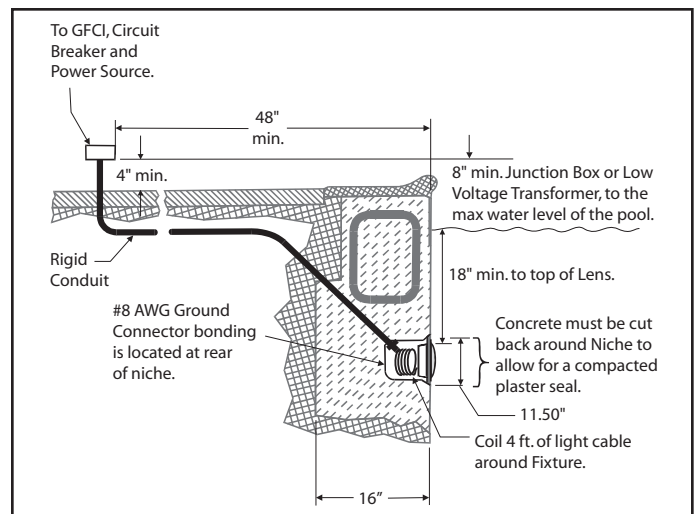

Figure 1. Jandy Digital Color Light Installation
NOTE: The electrician must complete preparatory steps before light fixture is installed. See Figure 1.
- The Junction Box (or, for 12 volt models, the low voltage transformer) must be located at least eight (8) inches above water level, at least four (4) inches above ground level or pool deck level, and at least four (4) feet from the edge of the pool or spa; see Figure 1 for pools and Figure 2 for spas.
- The light fixture and all metal items within five (5) feet of the pool or spa must be properly electrically bonded to a reliable point of grounding.
- The wet niche must be properly installed so that the top edge of the underwater light's lens is at least 18 inches below the surface of the water in the pool or spa; see Figure 1 or 2.
1. Feed cord through conduit to junction box, leaving at least four (4) feet of cord at the light fixture to coil into the base of the light niche, see Figure 1. The four (4) feet of cord allows the light to be serviced after the pool is filled with water.
2. Cut the cord at the junction box, leaving at least six (6) inches of cord to make connections.
3. Strip six (6) inches of the outer cord jacket to expose the three insulated wires. *Be careful not to damage the insulation on the three (3) inner wires.*
4. Install strain relief over cord jacket and connect all three (3) wires to the corresponding circuit wires in the junction box. Install the junction box cover.
2. The junction box (or, for 12 volt models, the low voltage transformer) must be located at least eight (8) inches above water level, at least four (4) inches above ground level or pool deck level, and at least 48 inches from the edge of the pool or spa. See Figure 1.
3. The light fixture and all metal items within five (5) feet of the pool must be properly electrically bonded to a reliable point of grounding.
4. The wet niche must be properly installed so that the top edge of the underwater light's lens is at least 18 inches below the surface of the water in the pool. See Figure 1.
5. The wet niche must be properly electrically bonded and grounded via the No. 8 AWG ground connector located at the rear of the niche. See Figure 1.
5. Leave at least four (4) feet of cord to coil around the light fixture or coiled into the base of the light niche, see Figure 1. This allows the light to be serviced after the pool is filled with water.
6. Cut the cord at the Junction Box, leaving at least six (6) inches of cord to make connections.
7. Strip six (6) inches of the outer cord jacket from the cord to expose the three insulated wires. *Be careful not to damage the insulation on the three (3) inner wires.*